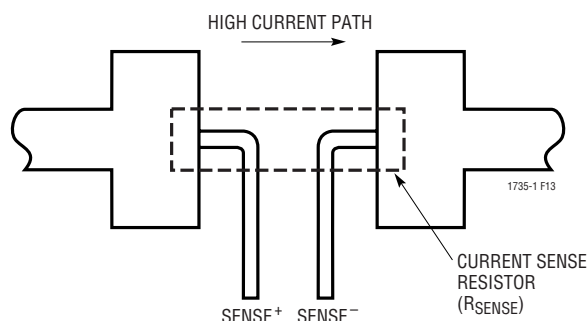

Figure 13. Kelvin Sensing R_{SENSE}
3. Are the SENSE⁺ and SENSE⁻ leads routed together with minimum PC trace spacing? The filter capacitor between SENSE⁺ and SENSE⁻ should be as close as possible to the LTC1735-1. Ensure accurate current sensing with kelvin connections to the SENSE resistors shown in Figure 13. Series resistance can be added to the SENSE lines to increase noise rejection.
6. Keep the switching node (SW), Top Gate node (TG), and Boost node (BOOST) away from sensitive small-signal nodes, especially from the voltage and current sensing feedback pins. All of these nodes have very large and fast moving signals and therefore should be kept on the “output side” (Pins 9 to 16) of the LTC1735-1 and occupy minimum PC trace area.